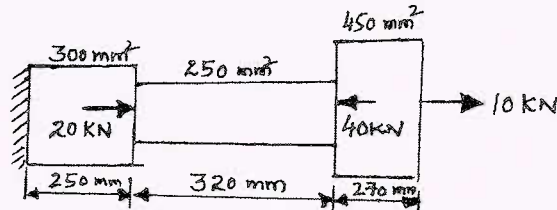

Fig.Q1(c)
- c. A stepped bar with three different portions has a fixed support at one of its ends. The stepped bar is subjected to forces as shown in Fig.Q1(c). Determine the stresses and deformations induced in each portion. Also find the net deformation induced in the stepped bar. Take $E = 200$ GPa. (08 Marks)